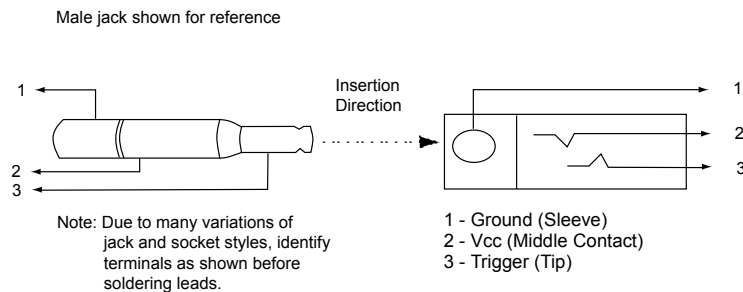

Figure 2-10 *Trigger Jack Connector Pins*
2. If using an external switch and applicable host cable, plug the trigger cable into the female stereo connector on the flying lead of the 9-pin D-connector. See Figure 2-10 on page 2-10 for connector pins.